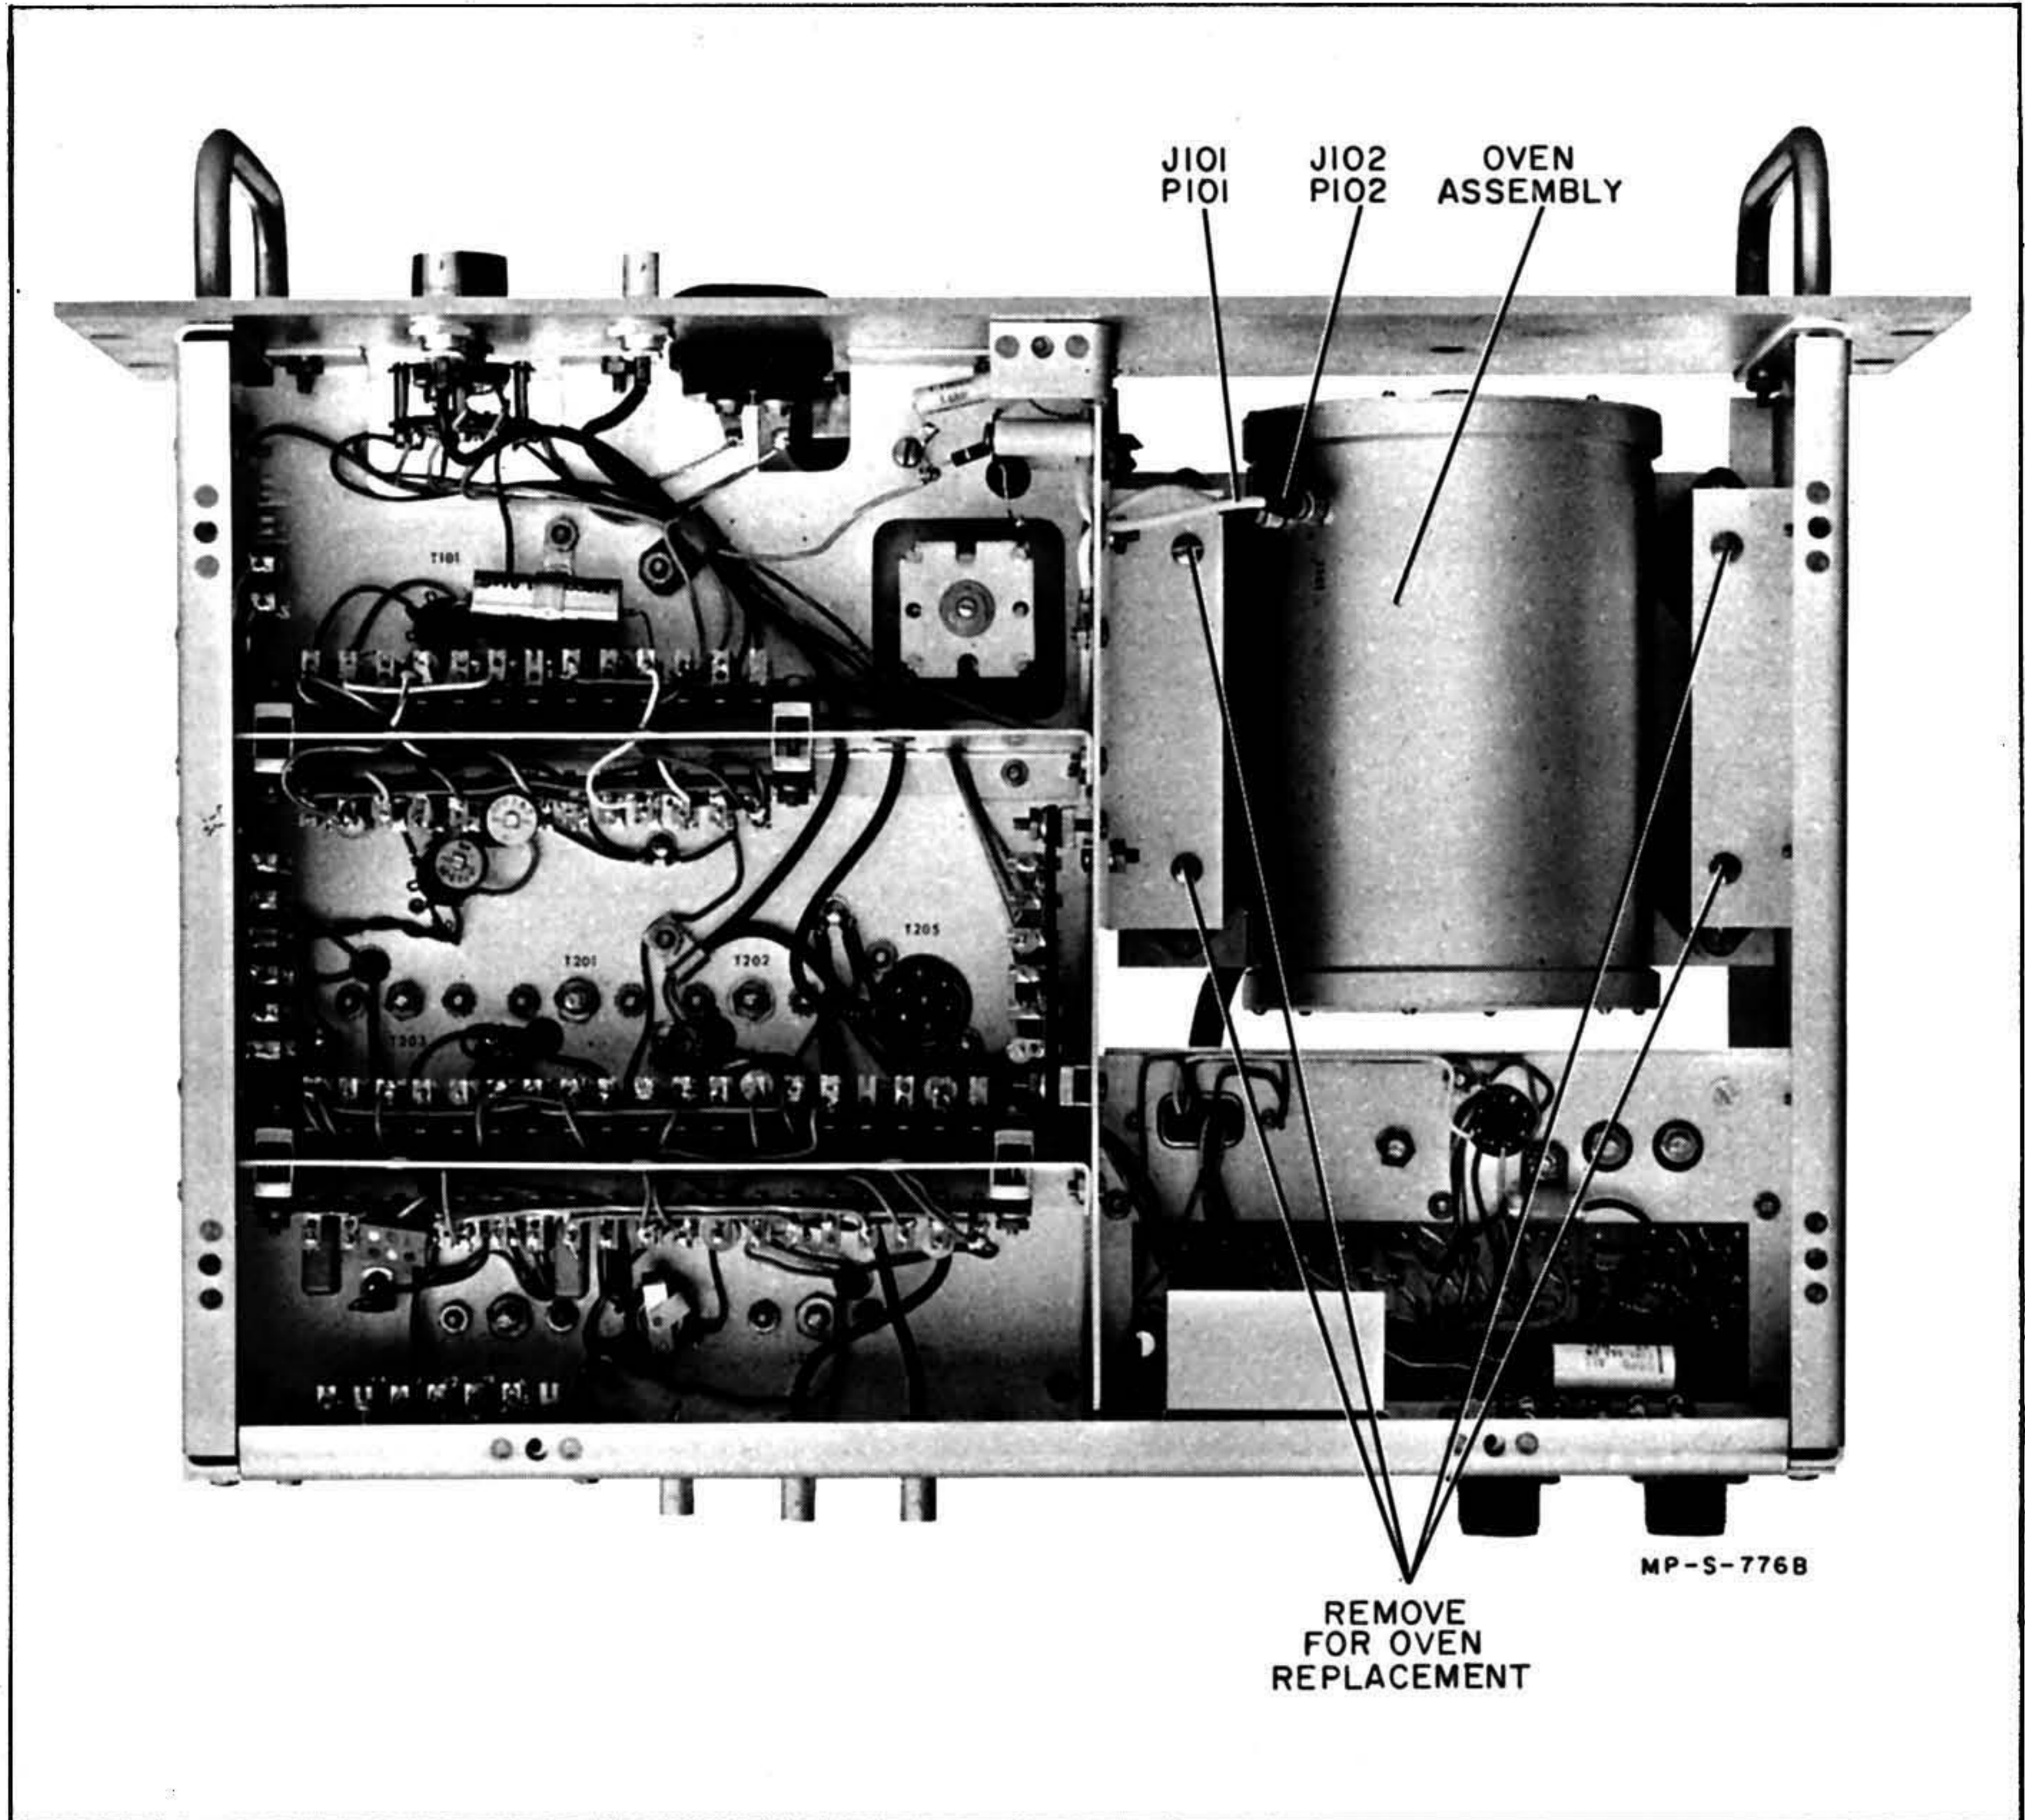

Figure 7-1. Bottom View Model 103AR
- b. Disconnect P103 from J103, P101 from J101, and P102 from J102. See figures 7-1 and 7-2.
- c. Remove the screw in the shock mount at each corner of the oven. See figure 7-1.